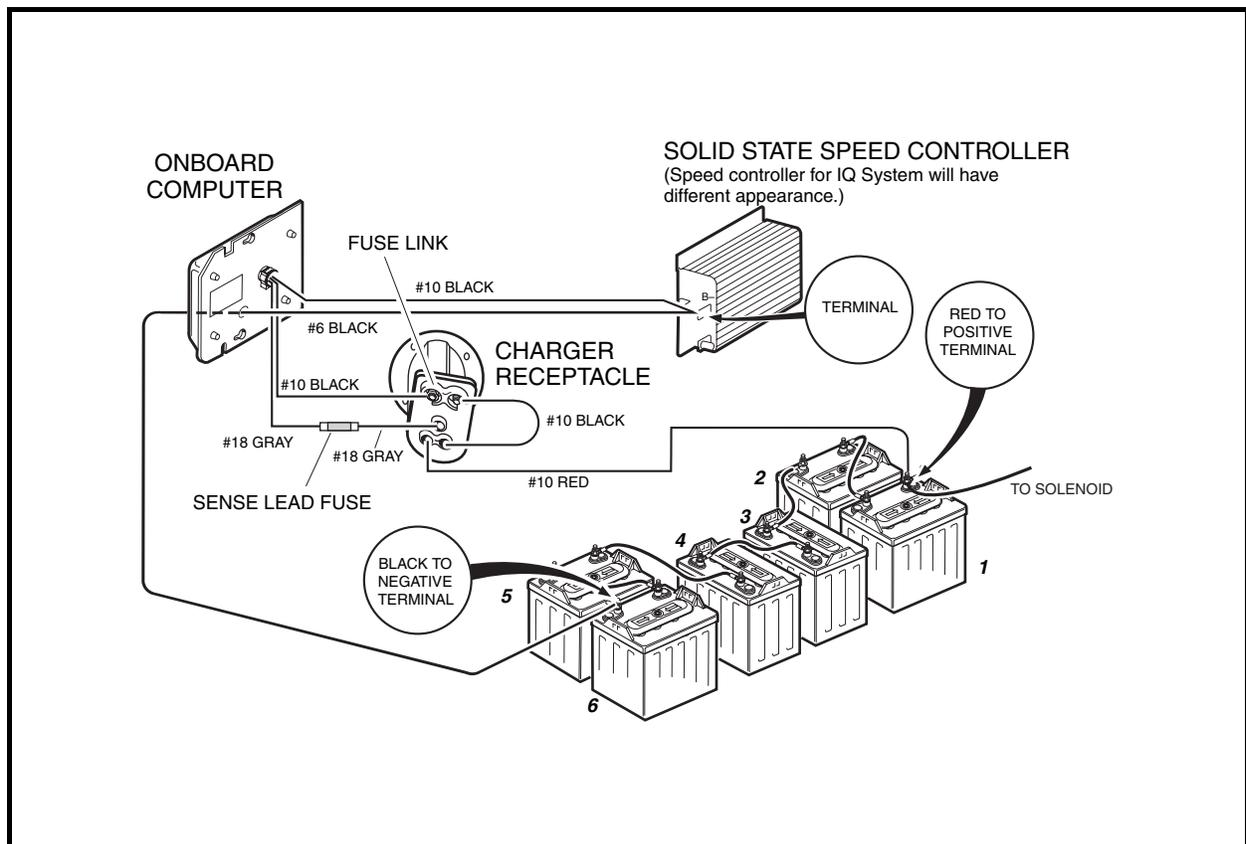
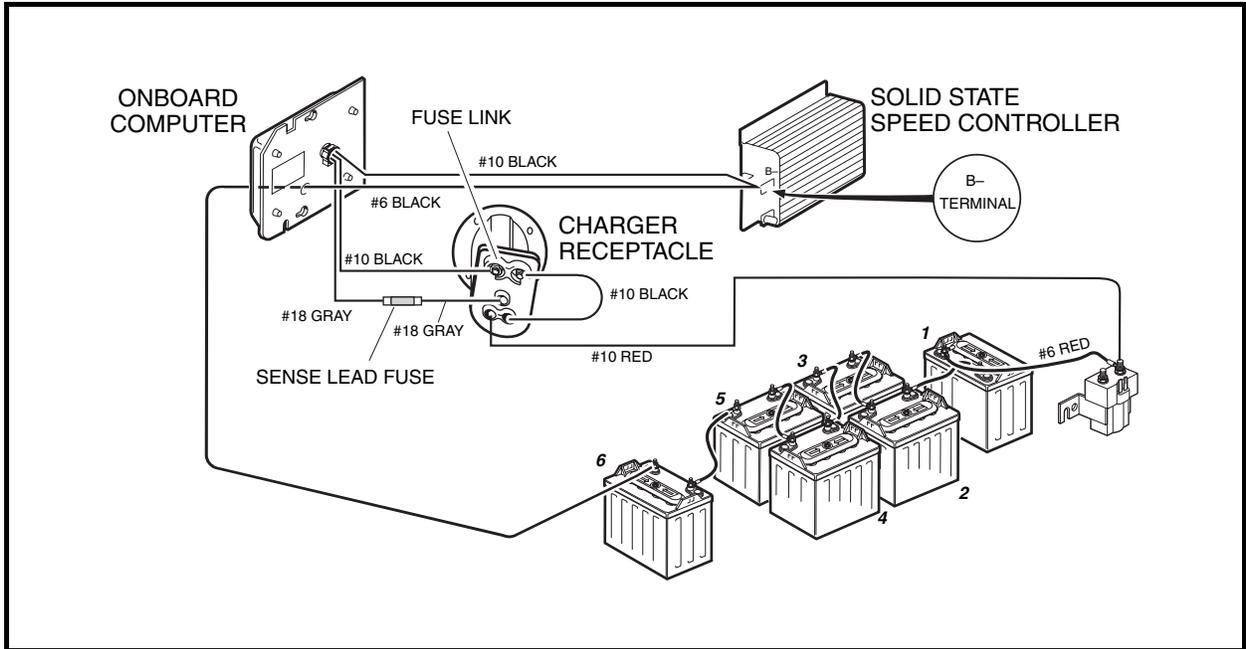
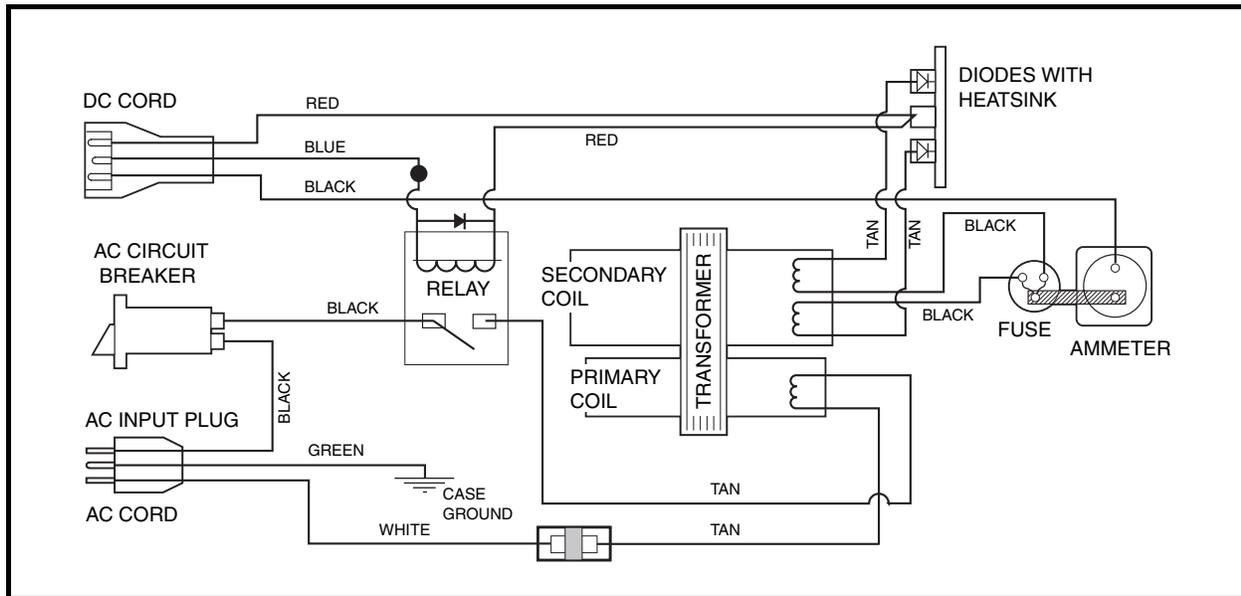

Figure 3-2 Charge Circuit and Battery Configuration – DS, Turf 1, Carryall 1 and DS Villager 4 Vehicles
Figure 3-3 Charge Circuit and Battery Configuration – Turf 2, Carryall 2 and Villager 6 and 8 Vehicles
Figure 3-7 PowerDrive Battery Charger Wiring Diagram (External Charger)
If the charger works with one vehicle, but does not work with another vehicle, then most likely the problem is in the vehicle charge circuit. Check the connections between the 18-gauge gray wire from the charger receptacle, the sense lead fuse (on all vehicles except Precedent vehicles), and the 18-gauge gray wire from the onboard computer. On all vehicles except Precedent vehicles, also check connections of the fuse link located on the charger receptacle (**Figure 3-2, Page 3-3 or Figure 3-3, Page 3-4**).
3. If the charger does not operate exactly as described above, refer to the wiring diagram and make sure that the vehicle is wired correctly (**Figure 3-2, Page 3-3** or **Figure 3-3, Page 3-4**) and that the internal charger wiring is correct (**Figure 3-7, Page 3-8**).
- Knowledge of battery charger wiring and component terminology is required before attempting any repair (Figure 3-7, Page 3-8).